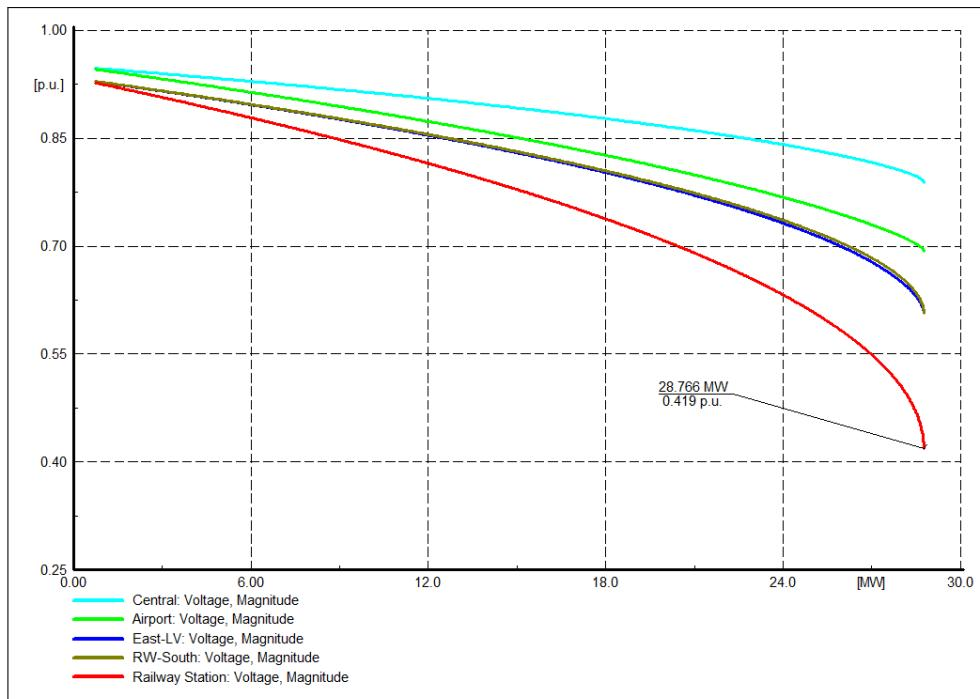

Figure 40.2.1: Network PV curve
PV curves are essential for analysing the voltage stability of power systems. The PV Curves Calculation finds the critical point of voltage instability by increasing the power demand of user-selected loads until the load flow calculation no longer converges; i.e. until the stability limit is reached. The critical demand is reported in the output window, and the voltage drop (V), and increasing power (P), can then be plotted using the PV Curves Plot command, as illustrated in Figure 40.2.1.